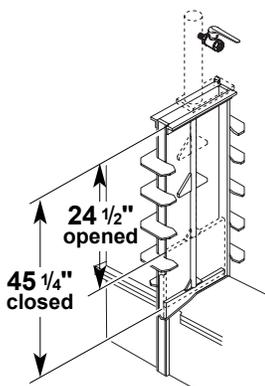

fig. 3
10. To ensure the guillotine is properly closed, remove a drain hose and measure the distance between the top of the guillotine door and the top of the guillotine chamber — *fig. 3 or 4*.